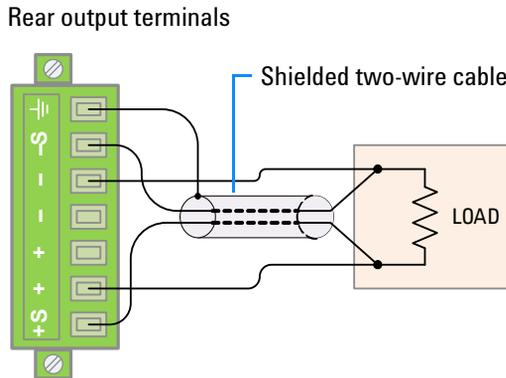
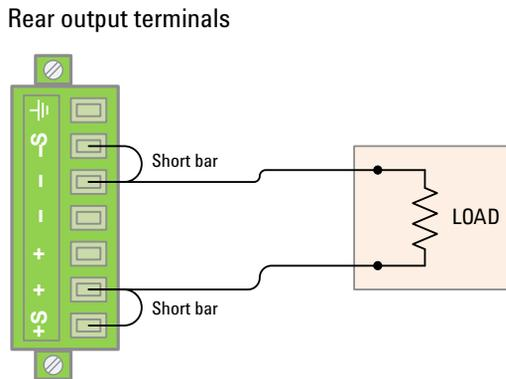

Figure 3-3 Remote sensing connections
Figure 3-4 Local sensing connections
- 4 Loosen the top screws with a Phillips screw driver and connect the rear output terminal block sensing (S+ and S-) and output (+ and -) terminals to the load as shown in **Figure 3-3** using a shielded two-wire cable.
The sensing outputs (S+ and S-) must not be left unconnected. It must be connected locally (**Figure 3-4**) or remotely (**Figure 3-3**).
- 2 Remove the connections between the U3606A sensing (S+ and S-) and output (+ and -) terminals. Using a shielded two-wire cable, connect the U3606A sensing terminals to the load as shown in Figure 3-3. Observe the polarity when connecting the sensing leads to the load.